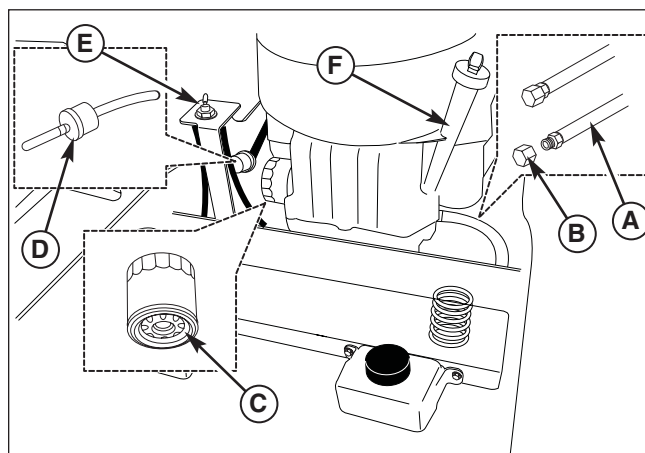

Figure 19. Engine Oil Drain (Briggs & Stratton shown)
3. Using pliers, open and slide the hose clamps from the fuel filter (D, Figure 19).
2. **Briggs & Stratton Models:** Locate the oil drain hose (A, Figure 19) on the left side of the engine and route the oil drain hose over the rear of the engine deck.
Kawasaki Models: Locate the oil drain hose (A, Figure 19) on the right side of the engine and route the oil drain hose over the rear of the engine deck.